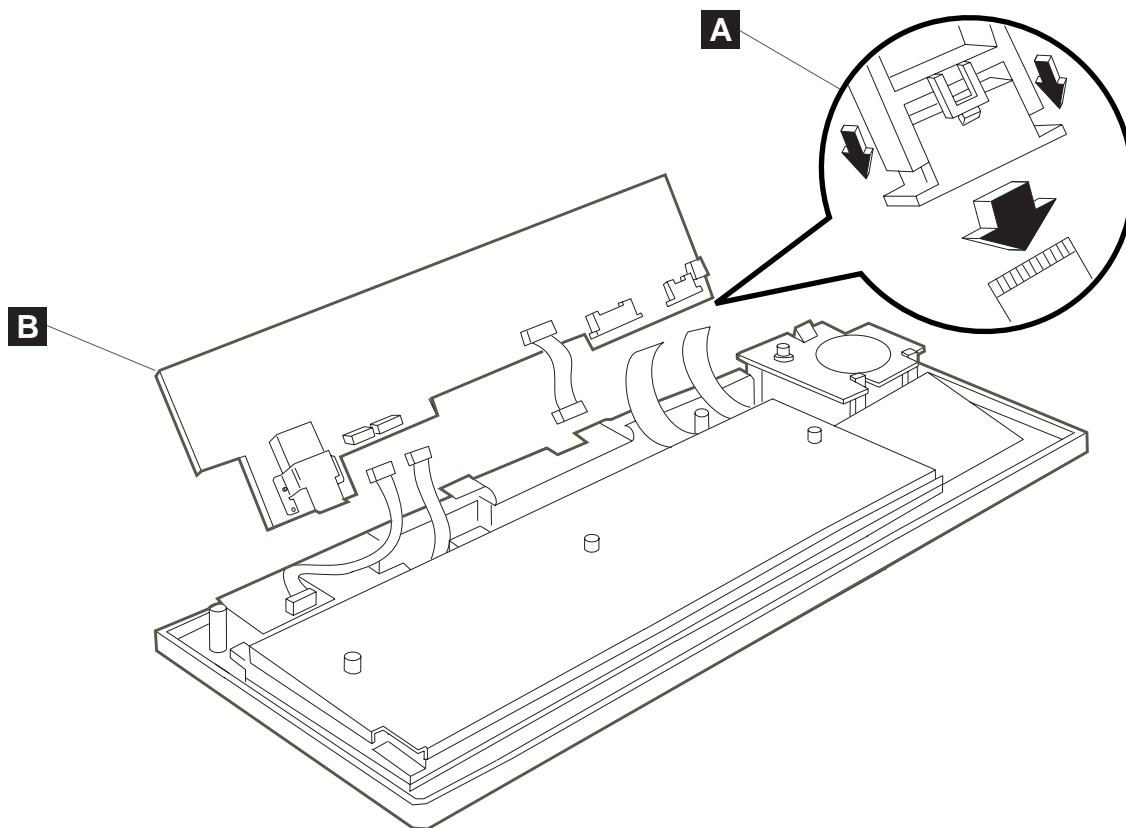

Figure 55. USB keyboard-V components – part 3
5. Lift the logic board, and turn it over (see Figure 55 on page 56).